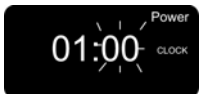

Fig. 17
3. Once the hour is selected press the clock button again to change the minutes. The :00 will flash. (Fig. 17)